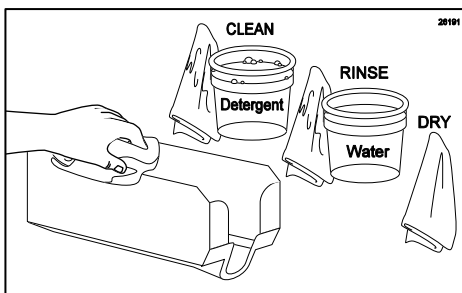

Figure 154
2. Remove each tray from the cabinet and clean them with a single service towel and detergent water. Then rinse and dry thoroughly. (See Figure 154.)